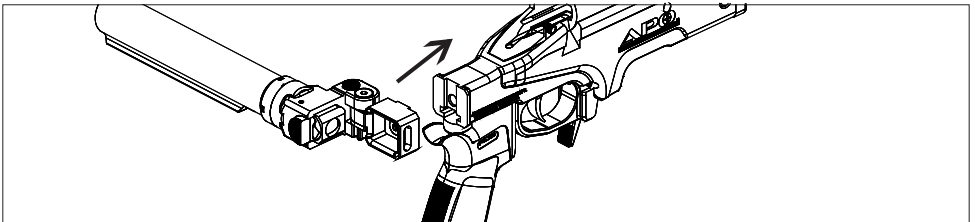

Figure 51 - SABER M700 Upright
3. With the Double Locking Hinge open, insert the male end into the corresponding female Center Chassis Section slot behind the trigger guard. (Fig 51)